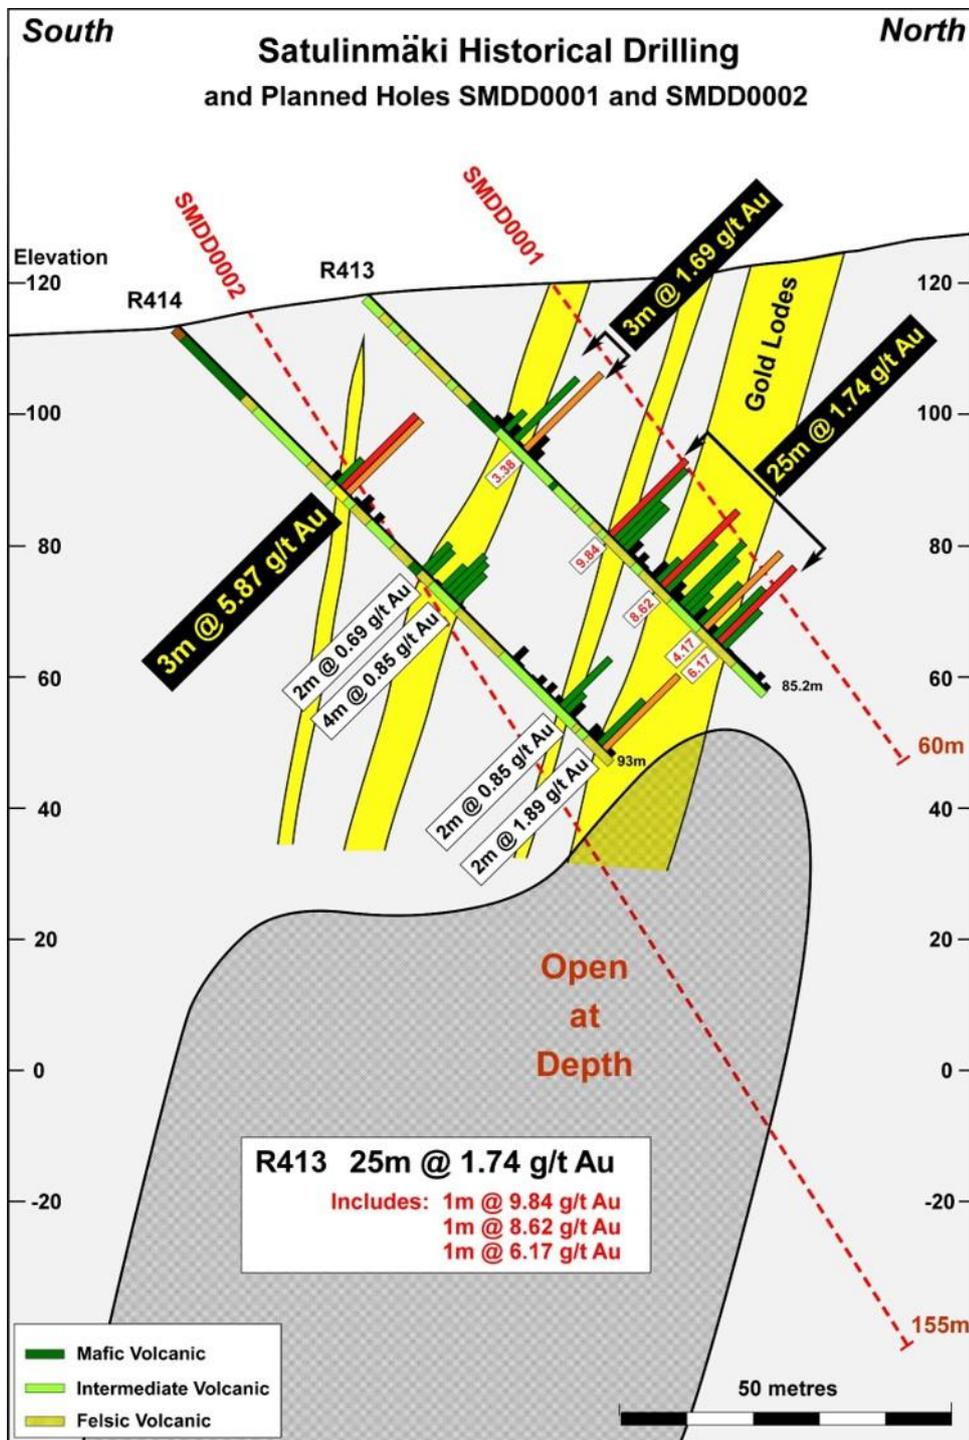

Figure 3: Cross section showing target zone down plunge from mineralised horizons in historical holes R413 and R414.
- 2.0m @ 1.89 g/t Au at the end of hole in drill hole R414. This hole ended in mineralisation (see figure 3)
Figure 2: Satulinmäki gold prospect showing interpreted NE trending gold bearing vein systems. Figure 3 cross section is shown through the main target vein. Collar positions of historical holes with red dots and grey, green traces. Proposed holes SMD001 to SMD006 are shown in white.